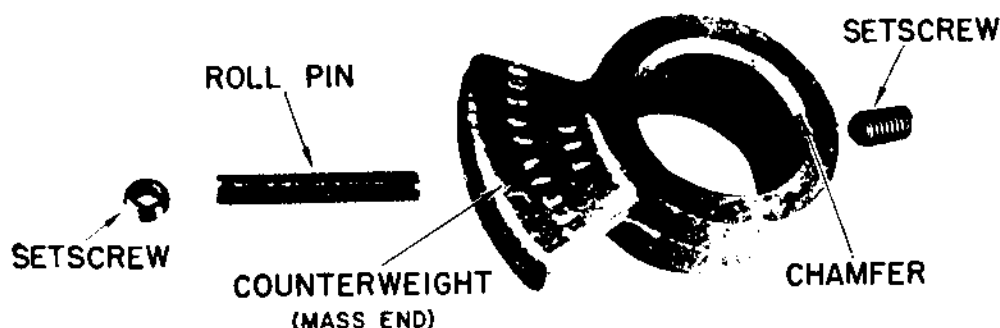

Figure 3-9. Counterweight, Roll Pin, and Setscrews
- d. To remove the counterweight, remove the two setscrews which are installed radially into the counterweight. Tap out the roll pin so that it emerges from the mass end of the counterweight. Slide the counterweight off the shaft. See figure 3-9.
c. Install the counterweight to hold the seal end thrust washer on the dowel pin. When installing the counterweight, it is important to slide it on the shaft with the chamfered edge toward the pump end of the shaft. The mass end of the counterweight is positioned 180° opposite the keyway in the shaft. See figure 3-9.